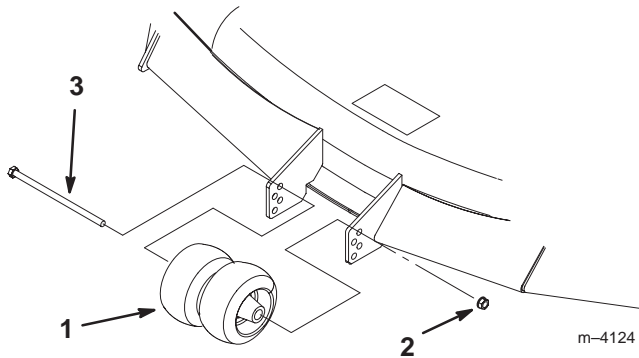

Figure 19
3. After adjusting the height-of-cut, remove the bolt and nut (Fig. 19).
4. Select a hole so that the center rollers are positioned to the nearest corresponding height-of-cut desired (Fig. 19).
5. Install the bolt, center rollers, and nut (Fig. 19).